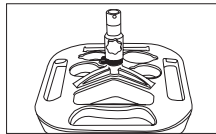

Figure 2
- Drain Tube:** Insert the drain tube into the neck of the drain and secure by threading the drain tube coupler to the threaded drain tube neck, but not overly tight (Figure 2).